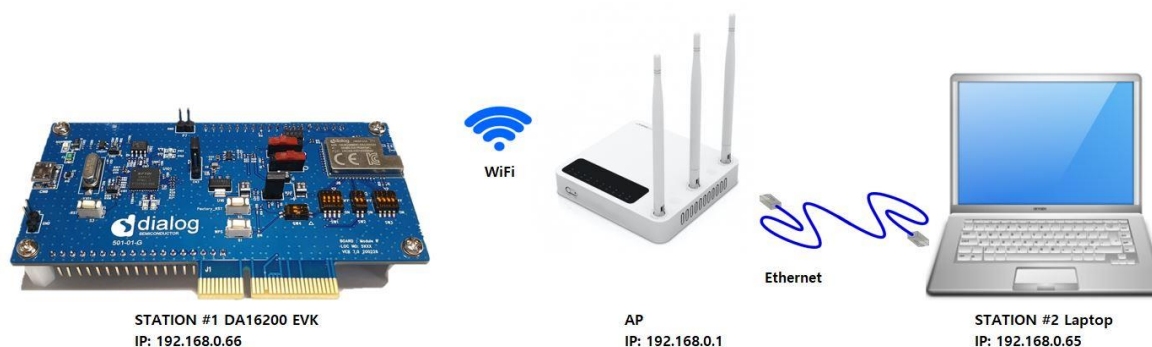

Figure 35: Ping Test Environment
The ping communication test requires an access point (AP) and two stations consisting of a DA16200 or DA16600 EVK and a laptop. The two stations must be connected to the same sub-network AP as shown in Figure 35.